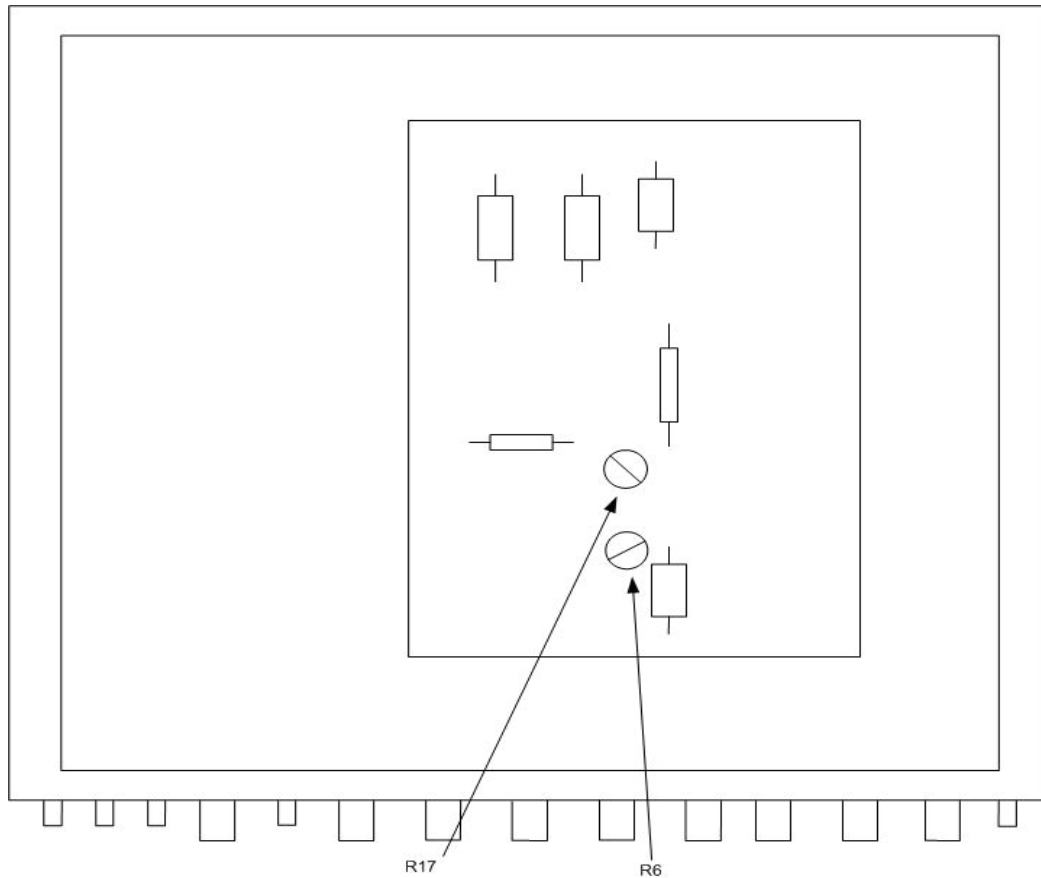

Figure 2. Model 1020A-Y - adjustment locations (top view).
(1) Adjust R6 (fig. 2) until frequency counter indicates 10 kHz (R).
(2) If required, readjust R6 for best in-tolerance condition while performing **a** (2) through (6) above.
- (1) Connect oscilloscope to TI  $\square$   $\square$  OUT.
- (2) Set **RATE** control fully cw, and **X1-X10-X100** switch to **X100**. Oscilloscope will indicate a square wave.
- (3) Set **FUNCTION** switch to **INT**  $\square$  and **PULSE WIDTH** control fully ccw and **X1-X10-X200-X1000** switch to **X1**. Oscilloscope will indicate a pulse width (pip) less than 0.2  $\mu$ s.
- (4) Set **PULSE WIDTH** control fully cw. Oscilloscope will indicate a pulse width 2  $\mu$ s or more.
- (5) Set **PULSE WIDTH X1-X10-X200-X1000** switch to **X10**. Oscilloscope will indicate a pulse width 20  $\mu$ s or more.
- (6) Set **PULSE WIDTH X1-X10-X200-X1000** switch to **X200** and **RATE X1-X10-X100** switch to **X1**. Oscilloscope will indicate a pulse width 400  $\mu$ s or more.
- (7) Set **PULSE WIDTH X1-X10-X200-X1000** switch to **X1000**. Oscilloscope will indicate a pulse width 2,000  $\mu$ s or more.
- (8) Disconnect cable from TI  $\square$   $\square$  OUT and connect to **FM OUT**.
(9) Turn **FM DEV AMPLITUDE** control fully cw and **FUNCTION** switch to **FM**. If oscilloscope does not indicate a symmetrical saw tooth wave (no flat bottom), perform **b** below.
**b. Adjustments.** Adjust R17 (fig. 2) for a saw tooth wave with no flat bottom (R).